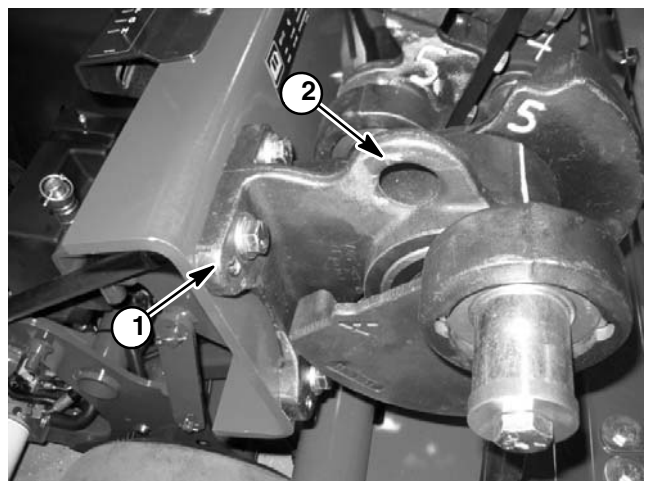

Figure 3
**NOTE:** If available, a hoist can be used to lift the rear of the ProCore 648. Use eyelets in coring head bearing housings as hoist attachment points (Fig. 3).